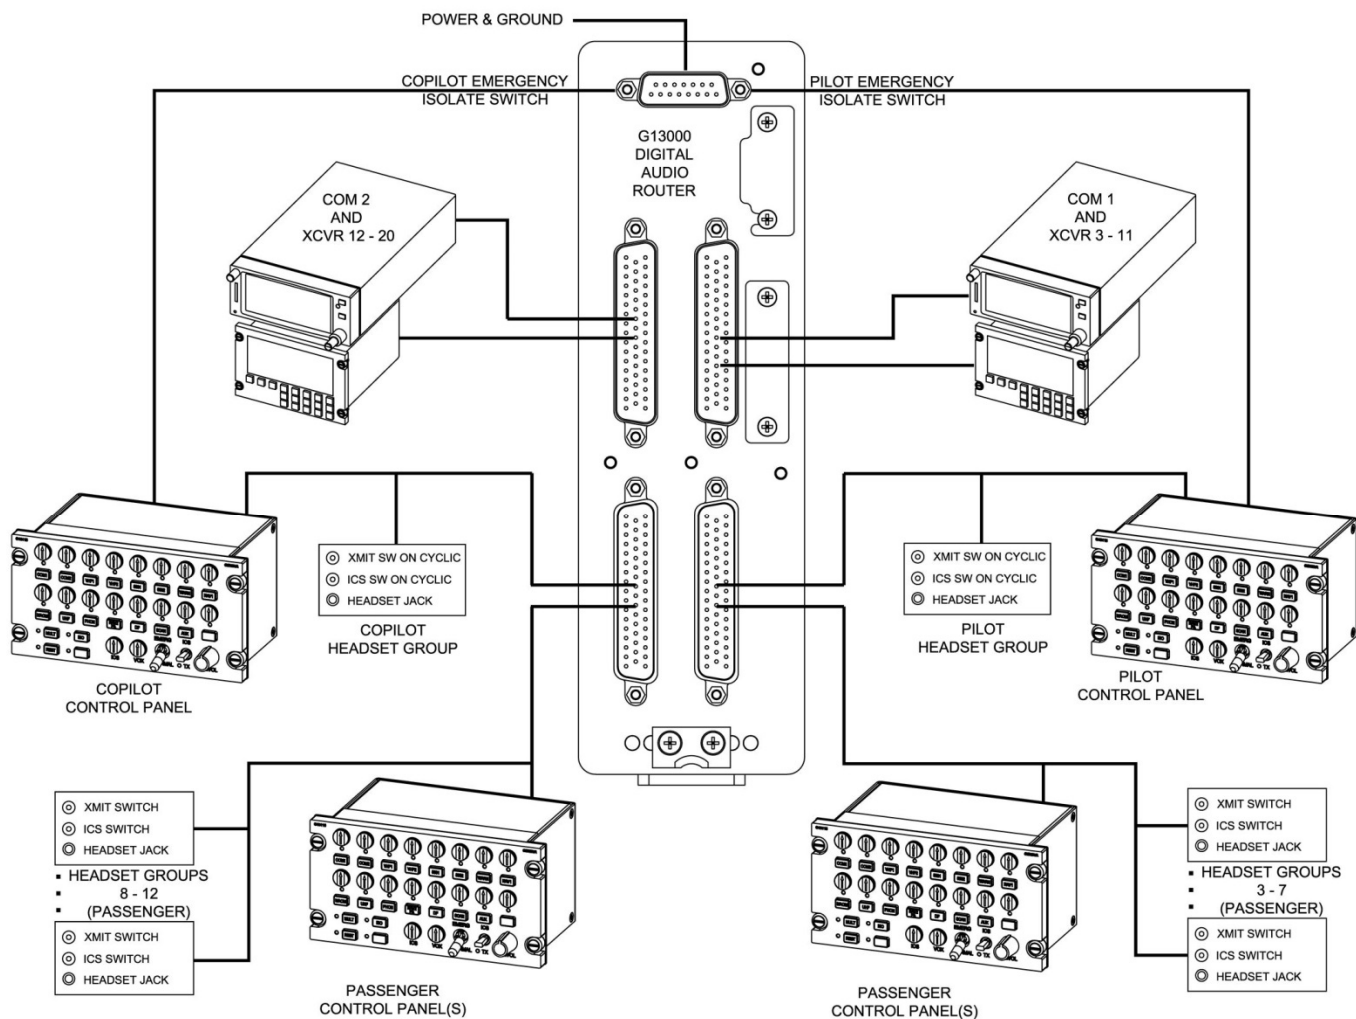

Figure 1 System Overview
Figure 1 shows the layout of a typical P139-HD (D) system.